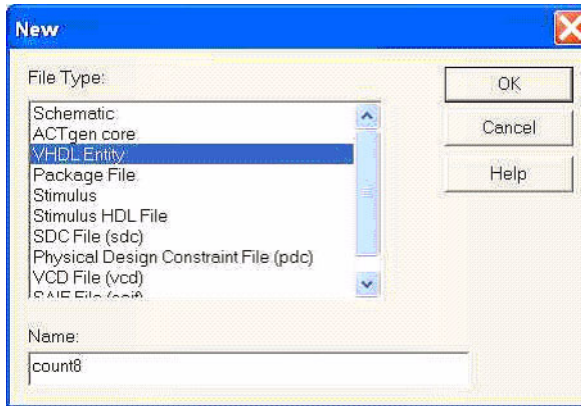

Figure 7-8. New File Dialog Box
1. From the File menu, click **New**. This opens the New dialog box, as shown in Figure 7-8.